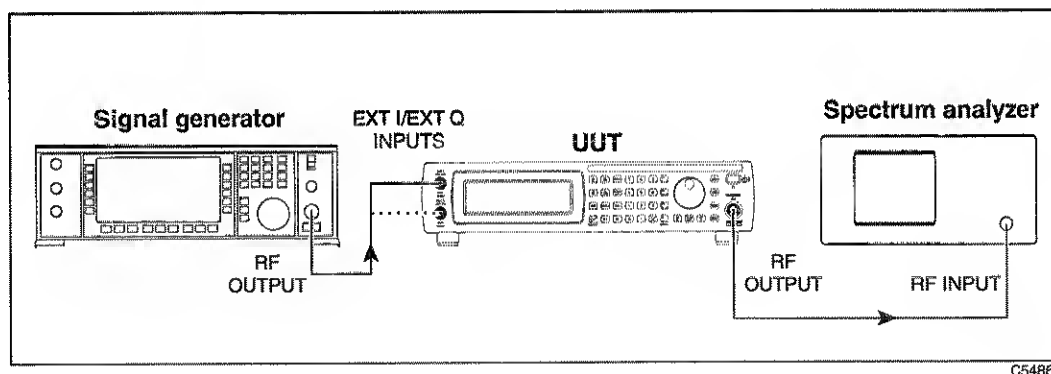

Fig. 6-4 RF output level test setup
- 1 Connect the test equipment as shown in Fig. 6-4.